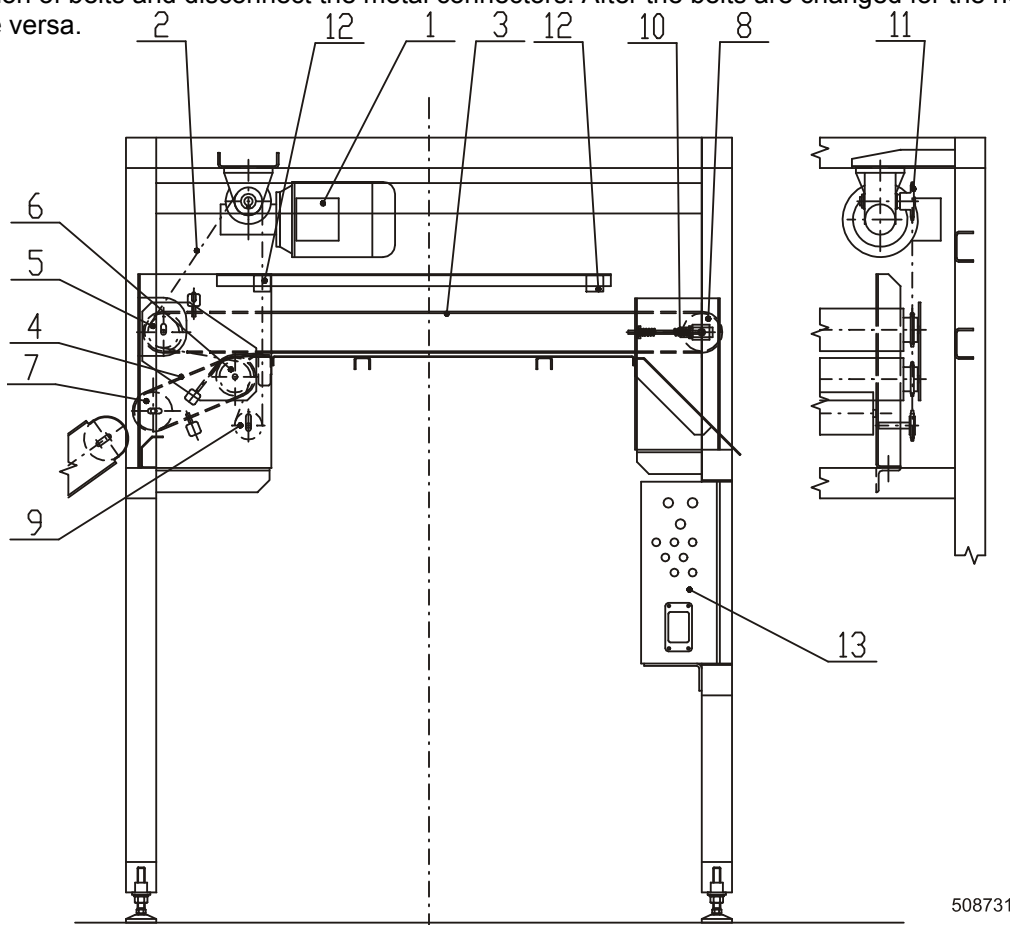

Fig. 5.4.5.A Stacker
Keep the drive chains slightly tight. Tightening of output conveyer chains is executed by movement of gear boxes in oval openings of gear box holders. Tightening of the stacker conveyer chains is executed by the tightening pulley, fig. 5.4.5.A, pos. 9.
Tightening of input belts, fig. 5.4.5.A, pos. 4, of the stacker is executed by moving the roller (7) in oval openings of the frame. Tightening of the stacker main belts (3) is executed automatically by the tightener (10).
Check function of optical sensors on input and output of the stacker main conveyor. Optical sensor, fig. 5.4.5.A, pos. 12, or glossy reflection surface on tables, can be contaminated. Clean them with the moist cloth, gloss the surface.